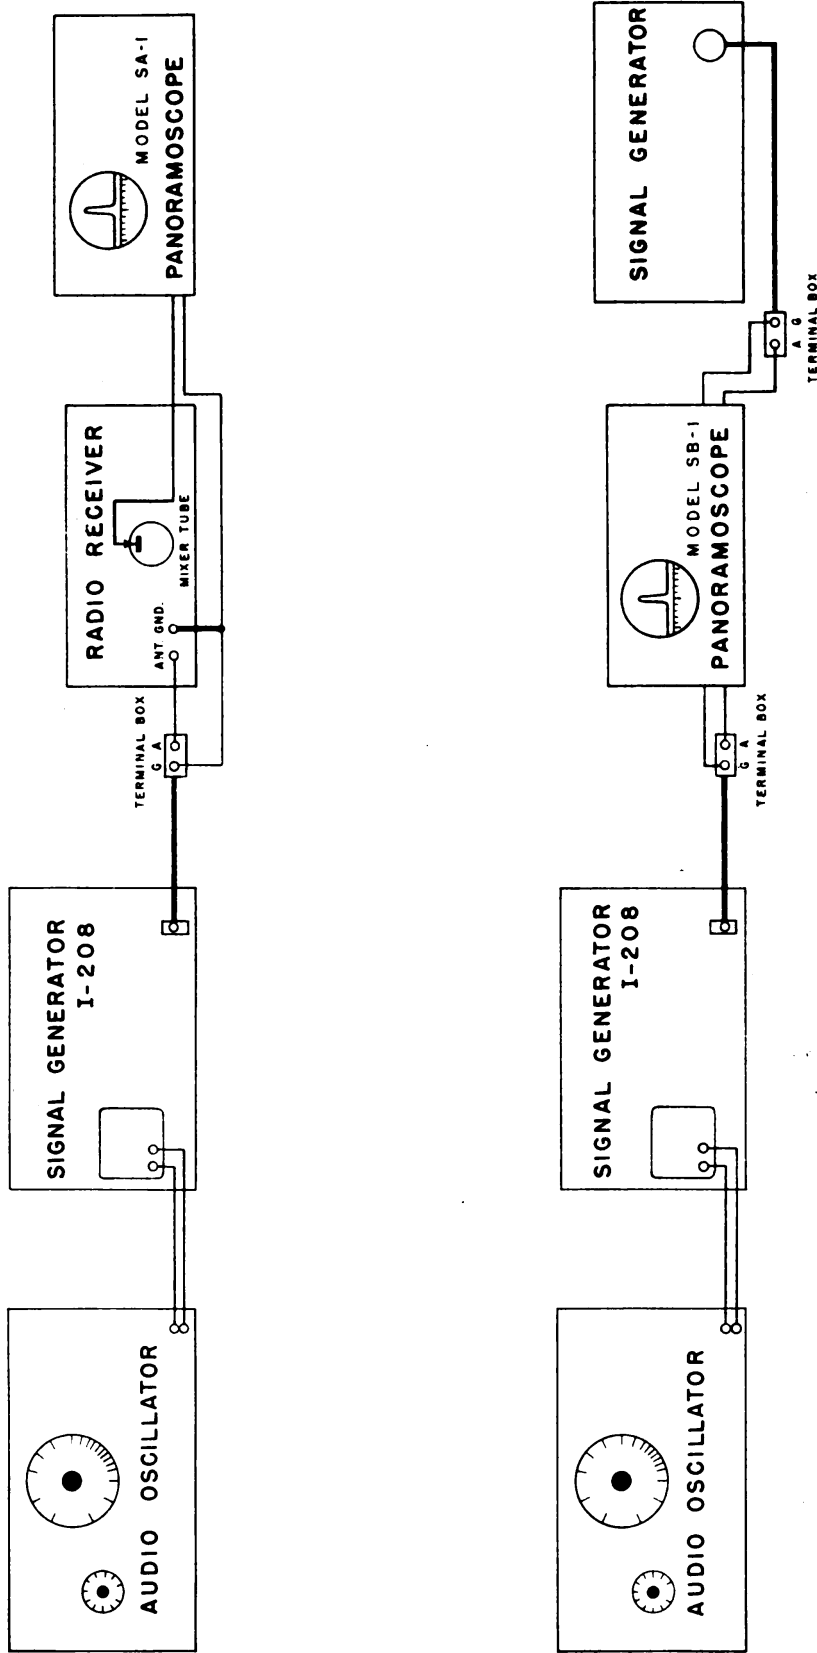
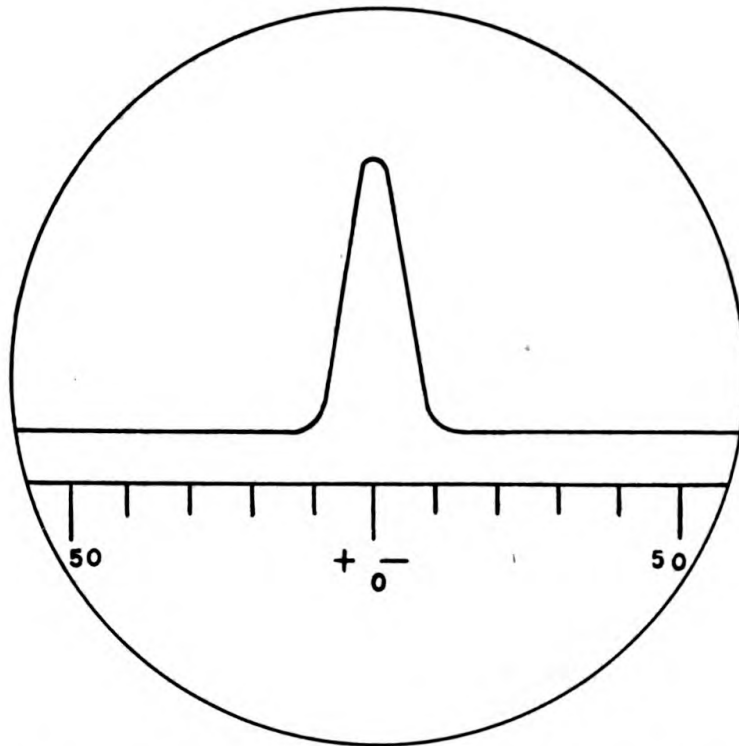
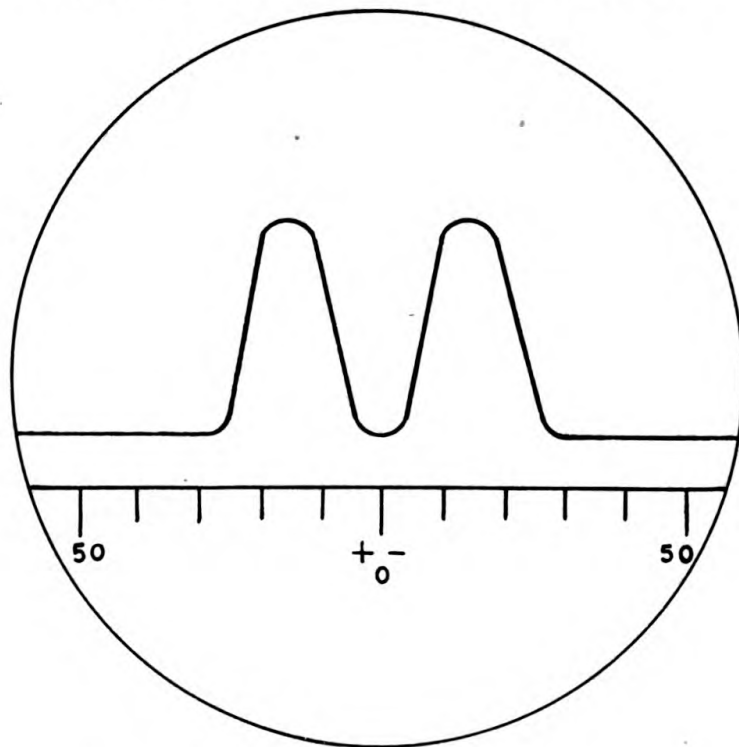

Figure 12—Block diagram showing methods of connecting Signal Generator I-208 to a radio spectroscopy
Figure 13—Panoramic pattern, unmodulated signal
Figure 14—Panoramic pattern, first null point
(1) Refer to figure 12 for the equipment necessary. Two setups are shown.
- (2) Connect the signal generator as shown in figure 12.
- (3) Set the MICROVOLTS control to 10.
- (4) Turn the multiplier switch to 10M.
- (5) Adjust the R.F. OUTPUT control so that the meter indicates approximately 1.
- (6) Turn the band switch to R.F. 19–45 MC.
- (7) Turn the signal generator to 19 MC.
- (8) See that the MODULATION FREQ. switch is at EXT. MOD. (OFF).
(9) Turn the output gain control of the external audio oscillator to zero. Since the accuracy of this adjustment depends upon the frequency accuracy of the audio source, the external audio oscillator should be highly accurate. If such an oscillator is not available, the 5000-cycle modulation frequency of the internal audio oscillator may be used. In this case, however, the error in deviation accuracy introduced will then be a maximum of 5 per cent.
(10) Throw the METER switch to AUDIO.
(11) Turn the K.C. DEVIATION control to 43.
(12) Tune the radio receiver to the frequency of the signal generator. At this point a pattern as shown in figure 13 should appear on the panoramic screen.
(13) Set the frequency of the external audio oscillator to 5000 cycles per second.
(14) Turn the gain control of the external audio oscillator slowly to the right until the center frequency peak reaches the horizontal axis. This is a center frequency null point (figure 14). Continue to turn the audio gain control until the third consecutive null point has been reached and leave the control in this position.
(15) Turn the K.C. DEVIATION control to 50.
(16) Adjust variable resistor R_{29} so that the meter indicator is coincident with the red line.
(17) Turn the tuning dial counterclockwise (left) to 45 MC.
(18) Audio meter reading at 50 KC should be 1.0. If it is not, adjust DEVIATION CORRECTOR until the audio meter reads 1.0.